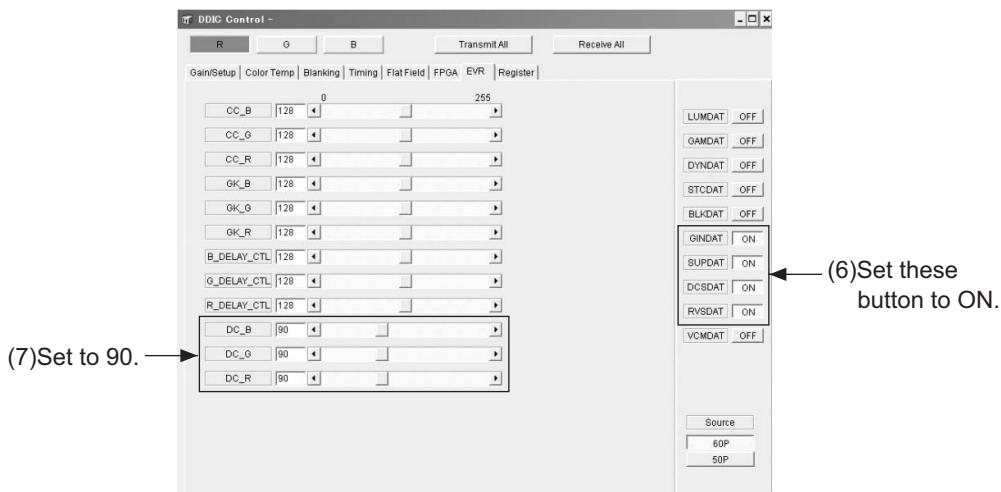
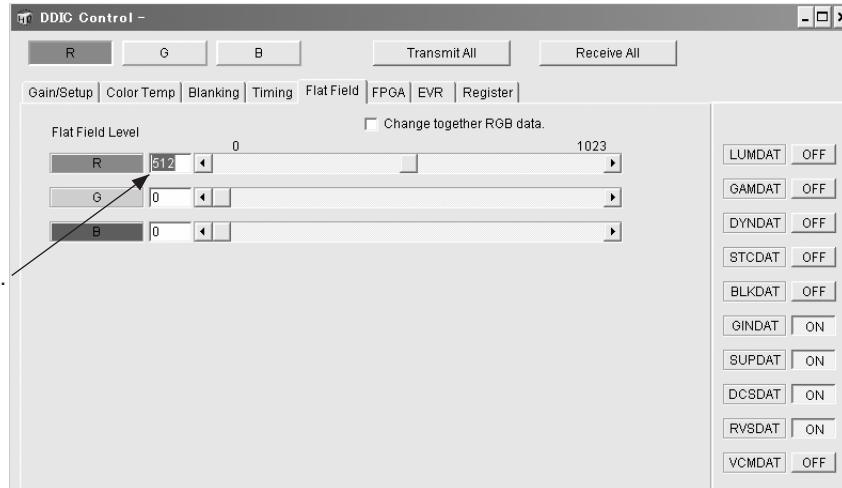

Fig.2
Fig.3
- (4) Press the [DDIC] button in the SPA screen. The DDIC Control screen will be displayed accordingly.
- (5) Press [Receive All] at the top right of the screen.
- (6) Press [R] at the top left of the screen. Set the following buttons located in the furthest right of the screen as follows: Set [GINDAT],[SUPDAT],[DCSDAT] to ON, and the rest to OFF. Refer to Fig.2.
- (7) In the [DDIC] [Control EVR tag] screen, set the value for DC_R, DC_G and DC_B to 90, respectively. Refer to Fig.2.
- (8) Put the photo-sensor at 40 cm away from the surface of the Projector lens (Screen center) and connect the sensor to the oscilloscope.
(9) On the [DDIC Control][Flat Field] tag, set the Flat Field Level value for a color to be adjusted to 512 and the rest to 0, respectively. Refer to Fig.3.
- (7) Click [DisConnect] in the PSA menu to disconnect the connection.
- (8) Put the CL200 at 40cm away from the projector lens surface (Screen center) and turn the CL200 to ON.
- (9) Open the Gamma adjustment file and click [CONNECT] in the [DC] sheet.
- (10) Click [MEASURE] when [OK] is shown. Refer to Fig.3.